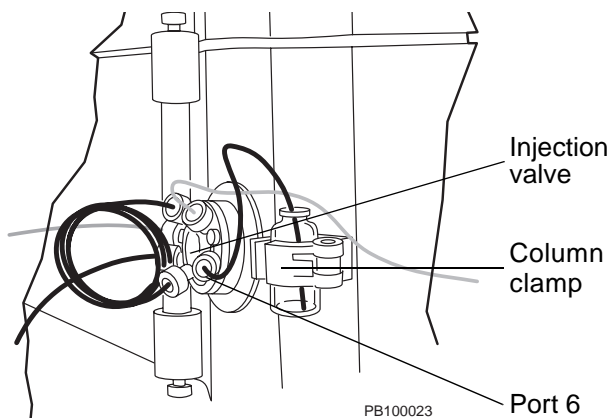

Figure 3-16 Preparing Sample for Direct Autoloader Injection
3. Place the sample vial in the top right column clamp on the workstation, next to the injection valve (Figure 3-16).